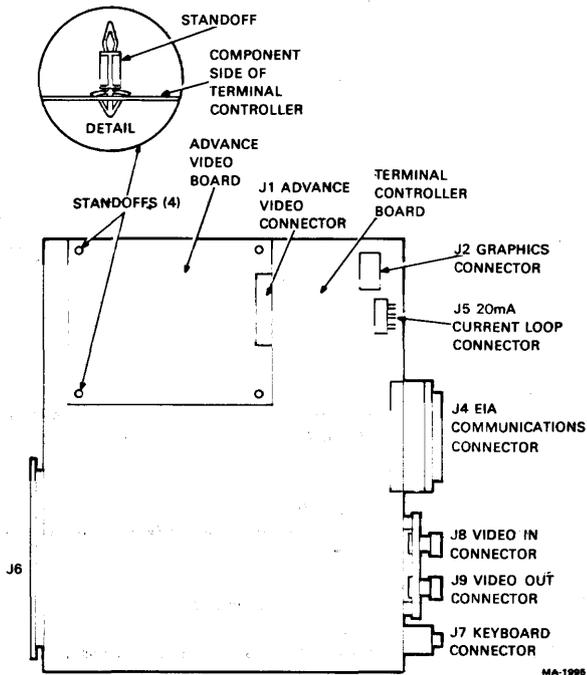

Figure 6-1 Advanced Video Option Installation.
4. Place a standoff in each of the four mounting holes in the terminal control board (Figure 6-1).
5. Connect P5 to J5 on the terminal controller board (Figure 6-1).